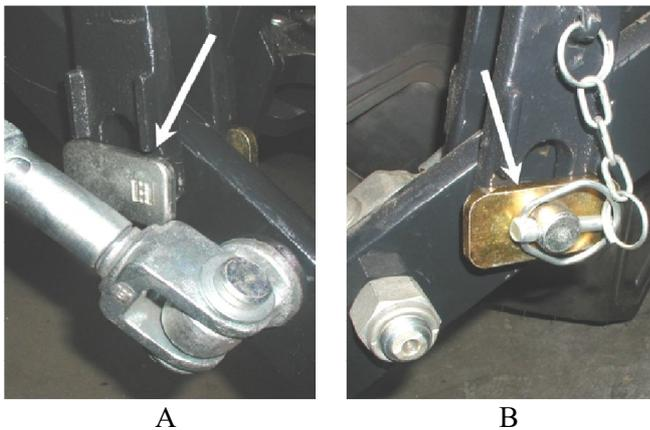
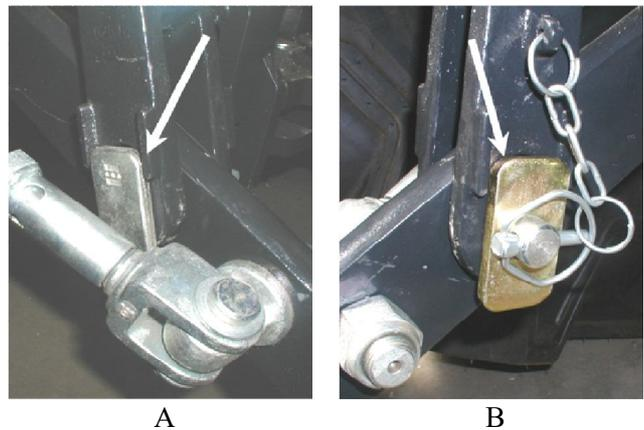

Fig. 4.6.3. Lift rods attachment non shifting to lower links – pin head and washer set horizontally
Fig. 4.6.4. Lift rods attachment shifting to lower links – pin head and washer set vertically
- level the implement in horizontal plane by changing length of lift rods. There are two methods of rods mounting to lower links – setting the head and pin washer horizontally (Fig. 4.6.3), which ensure non shifting connection of lift rod to lower link or setting the head and pin washer vertically (Fig. 4.6.4), which ensure fluid height adjustment of lift rod due to which implement position is adopted to tractor in horizontal plane,